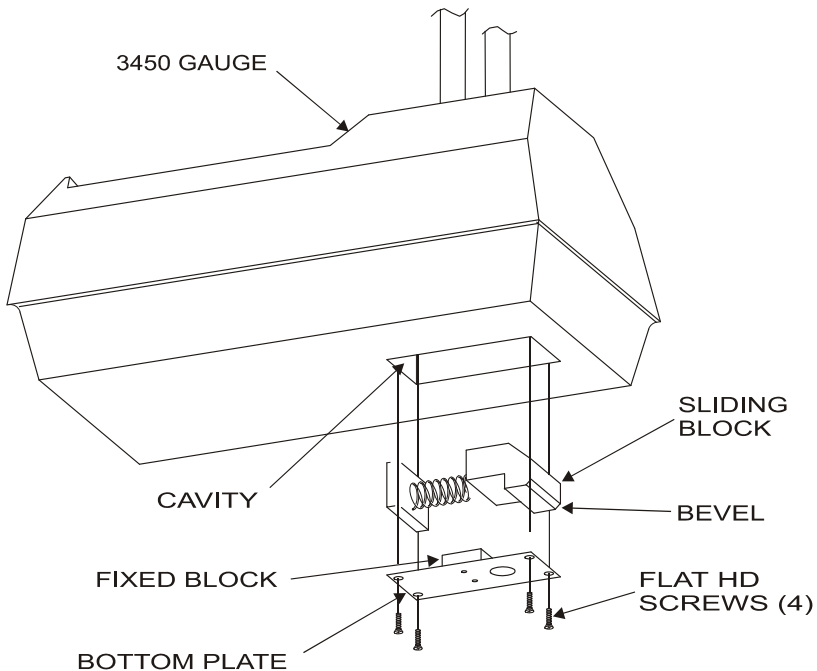

Figure A-3. Cleaning the Sliding and Fixed Blocks
- ✓ Clean the heads of the four corner screws that hold the bottom plate to the gauge base (Figure A-3). Using a 1/8-in. Allen wrench, remove the four screws in the corner of the plate and remove the plate. **Do not remove** the two screws located in the center of the plate that secure the fixed block to the plate.